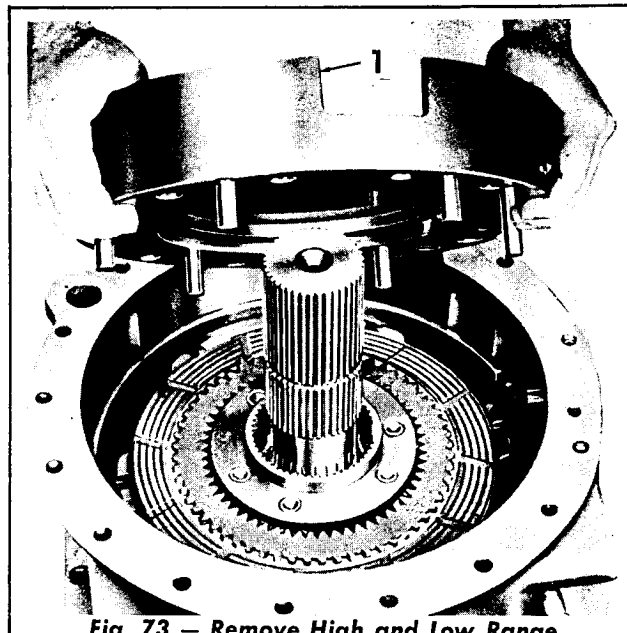

Fig. 73 — Remove High and Low Range Clutch Anchor
11. Remove the high and low range clutch anchor (Fig. 73).